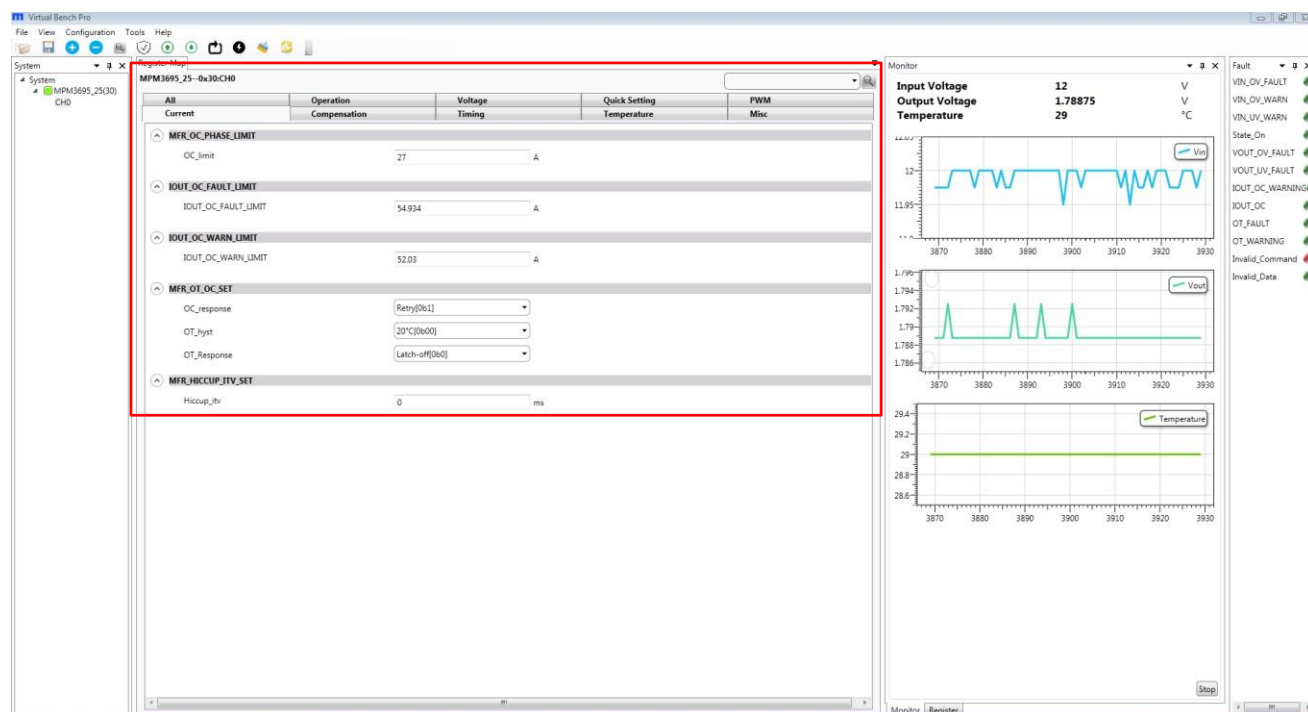

Figure 7: Values in the Register of the Module are Displayed
2. The Register Control menu will appear in the middle panel. The values stored in the registers of the module will be read automatically (see Figure 7).